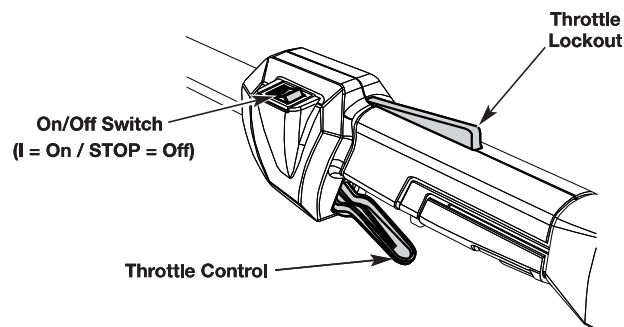

Fig. 7
**NOTE:** There is no need to turn the unit on. The On/Off switch is in the On ( I ) position at all times (Fig. 7).
7. To increase trimmer cutting speed, press and hold the throttle lockout with one hand, and then squeeze the throttle control with the other. The further you squeeze the throttle control, the more the cutting speed will increase (Fig. 7).
2. Press and hold the On/Off switch in the Off ( O ) position until the engine comes to a complete stop (Fig. 7).